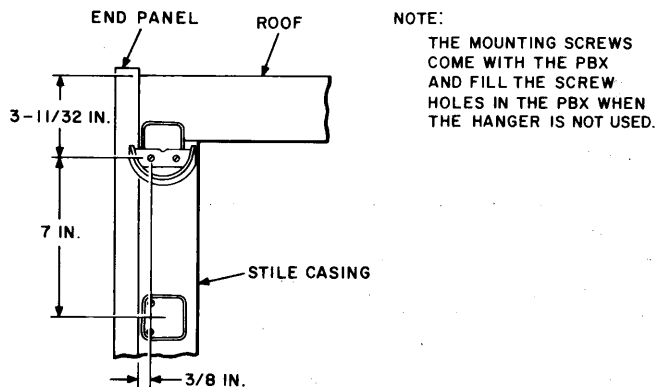

Fig. 18—Mounting 9A Handset Hanger
3.09 When a handset is provided, a 9A handset hanger is mounted as shown in Fig. 18.